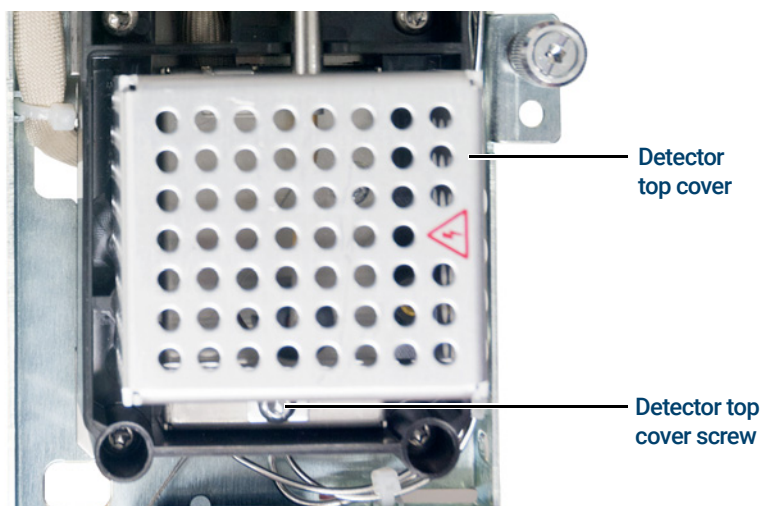

Figure 23. Detector top cover
- 35 Use a T20 Torx driver to remove the screw securing the ECD detector top cover to the detector pallet and then remove the cover. See Figure 23.